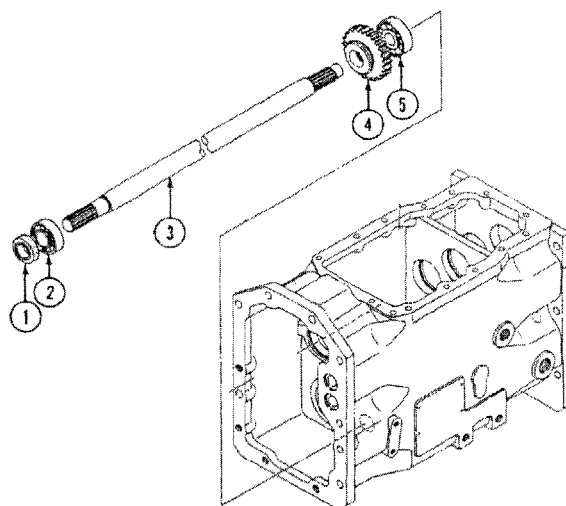

Figure 26
Reference — Figure 26
1. Gently drive the shaft (3), Figure 26, toward the front while supporting the sliding gear (4) and remove from the case.
2. Remove the seal (1) and bearing (2) from the case.
1. Install the drive shaft from the front end with the sliding gear and bearings as shown, Figure 26.